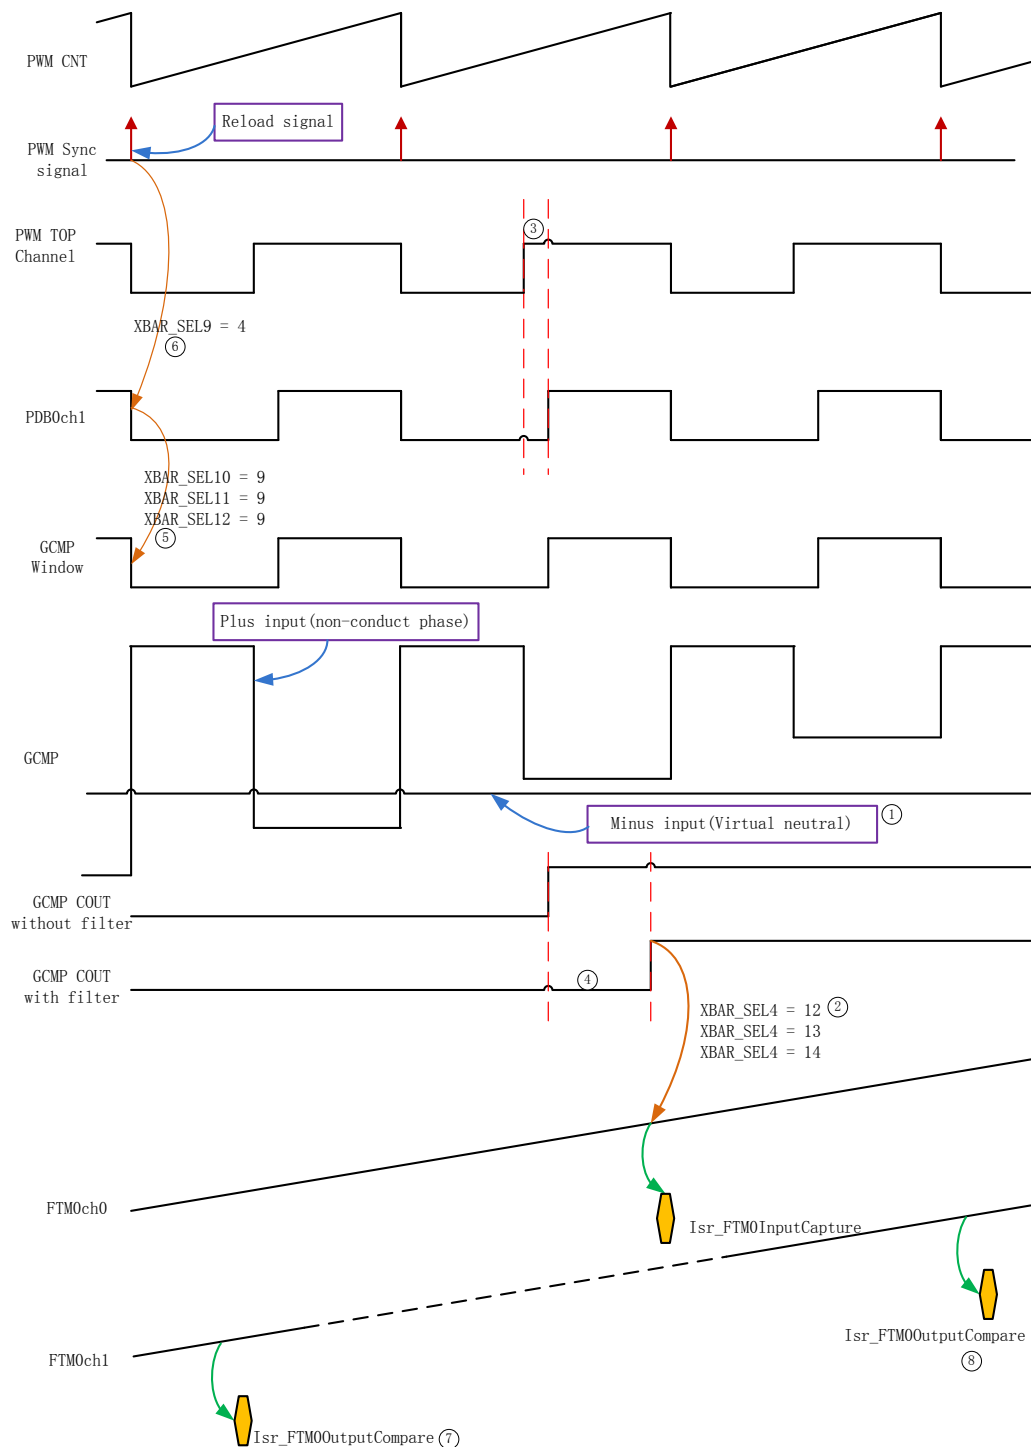

Figure 11. Zero-crossing detection & communication timing diagram
Figure 11 is zero-crossing detection and commutation timing diagram. If the comparator is used to detect zero-crossing point, the window function for comparator is used to avoid incorrect zero-crossing point detection.
5. The window function is generated by PDB0ch1. The synchronization between this two peripherals is realized by XBAR peripheral, described in *Figure 11*.
6. PWM and PDB0 are synchronized with the XBAR peripheral, described in *Figure 11*. PWM reload signal is generated in every PWM period in this application.
7. The FTM0ch1 output compare interrupt (ZC Detection state = current recirculation) time is obtained through calculation, not aligned to actual time points in *Figure 11*.
8. The FTM0ch1 output compare interrupt (ZC Detection state \neq current recirculation) time is obtained through calculation, not aligned to actual time points in *Figure 11*.